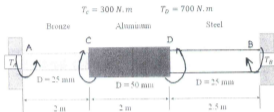

Fig. 3 (b)
- b) A shaft composed of segments AC, CD, and DB is fastened to rigid supports and loaded as shown in Fig. 3(b). For bronze, $G = 35$ GPa; aluminum, $G = 28$ GPa, and for steel, $G = 83$ GPa. D = shaft diameter. Determine the maximum shearing stress developed in each segment. (15)